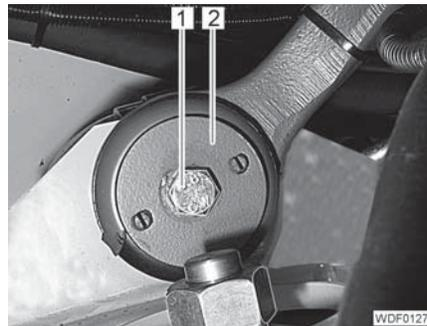

Fig. 39 Engine mount
- Screw in 1 screw (Fig. 39,1) on each of the engine mounts (Fig. 39,2) but do not tighten.
- Tighten 1 screw (Fig. 39,1) in each case.